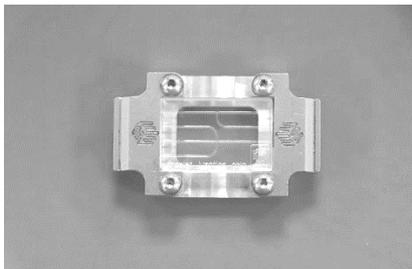

Figure 9
- Loosely attach both connector/tubing assemblies, see Figure 9.